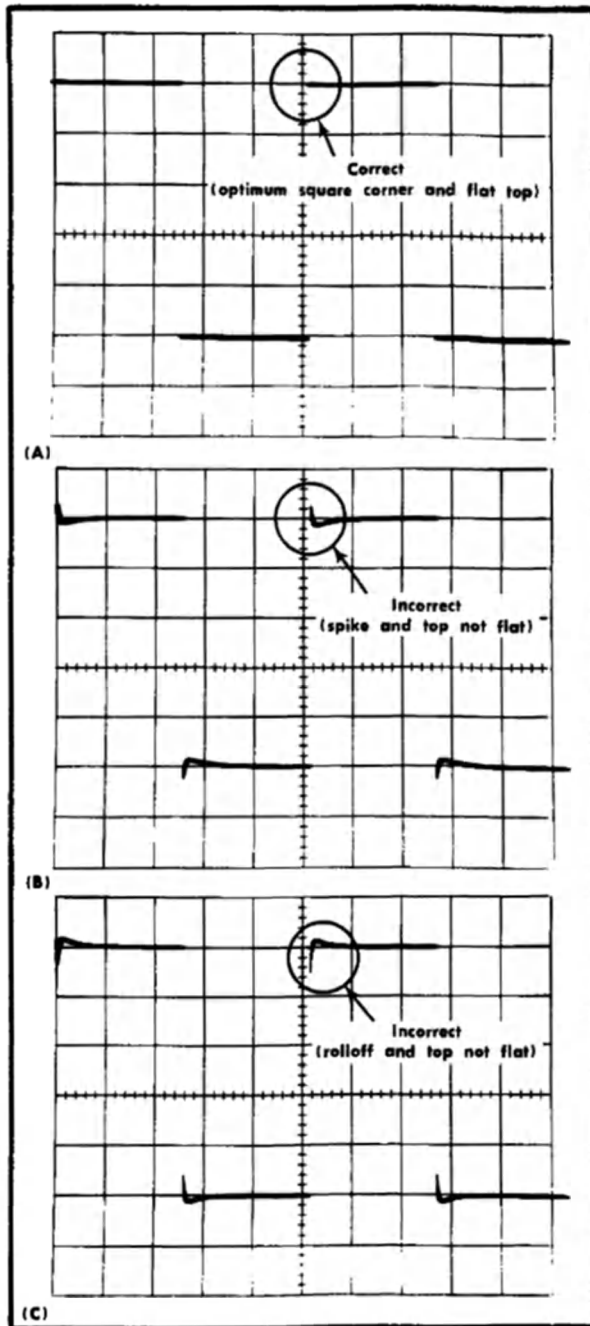

Fig. 5-6. (A) Typical CRT display showing correct VOLTS/DIV switch compensation; (B) and (C) incorrect compensation.
c. CHECK—CRT display at each Channel 1 VOLTS/DIV switch setting listed in Table 5-2 for 3% or less overshoot, or rounding or tilt (see Fig. 5-6).
g. CHECK—CRT display at each Channel 2 VOLTS/DIV switch setting listed in Table 5-2 for 3% or less overshoot, rounding or tilt (see Fig. 5-6).